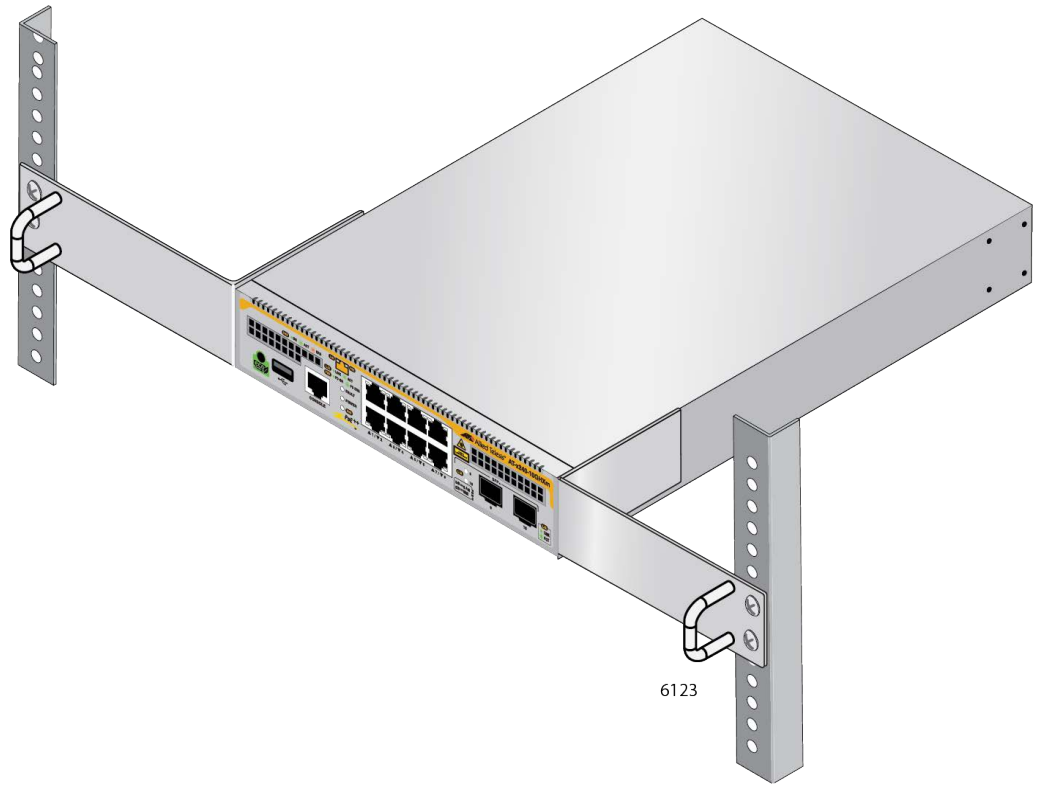

Figure 35. Installing the x240-10GHXm or x240-10GTXm Switch in a Rack with the RKMT-J14 Brackets
4. Have another person hold the switch at the desired location in the equipment rack while you secure it using four standard equipment rack screws (not provided). Refer to Figure 35.